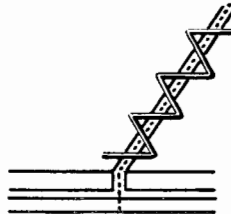

Fig. 154. Stitch down center.
4. Tie down these stitches, called an *overseam*, by stitching down the center of the break as in Figure 154.